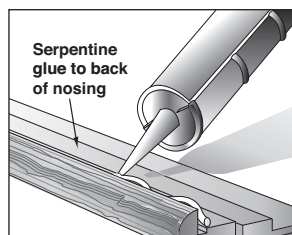

Fig. 32
7. Apply a 3/16" (4.76 mm) bead of adhesive in a serpentine pattern to the back of the step nose (Fig. 32). *Carefully read cautions on container and follow the manufacturer's recommended instructions on the adhesive label.*